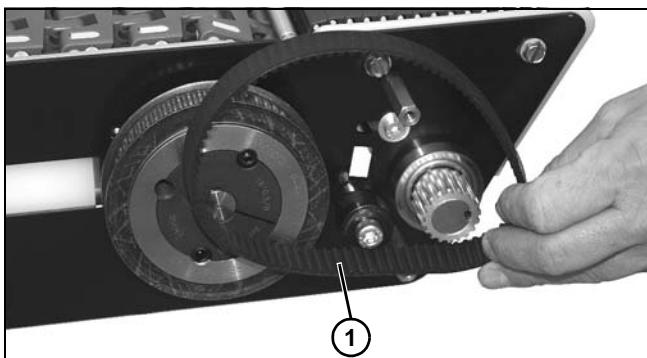

Figure 112
3. Remove timing belt (**Figure 112, item 1**) from assembly.